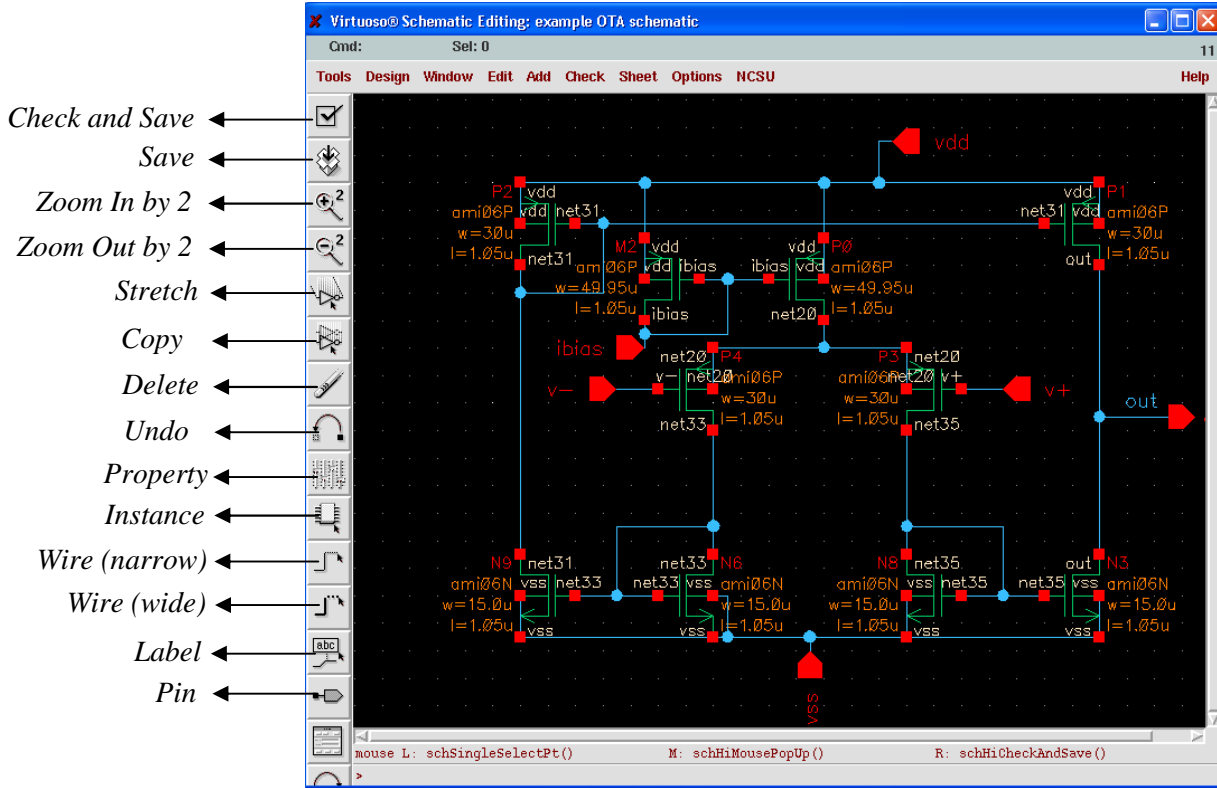

Figure 5. Composer Schematic Editor window
An empty blank Composer - schematic window should open. In this window you will create your schematic. The final schematic is shown in Fig. 5 (the icon actions are also shown). To create it, you can employ the window top menus or left icons (or also shortcuts). This multiple access to
- a) First, you have to create pins in your schematic in those non-global nets (inputs, outputs, supplies perhaps) that have to be accessible outside the symbol. For doing this, you can select the **Create Pin** icon in the Composer schematic window, select the pin name, its input or output configuration, etc, and then click at the end of the wire when the pin has to be placed. Six pin icons have been placed in the example of Fig. 5: **v+**, **v-**, **ibias**, **vdd**, **vss** (input pins) and **out** (output pin).